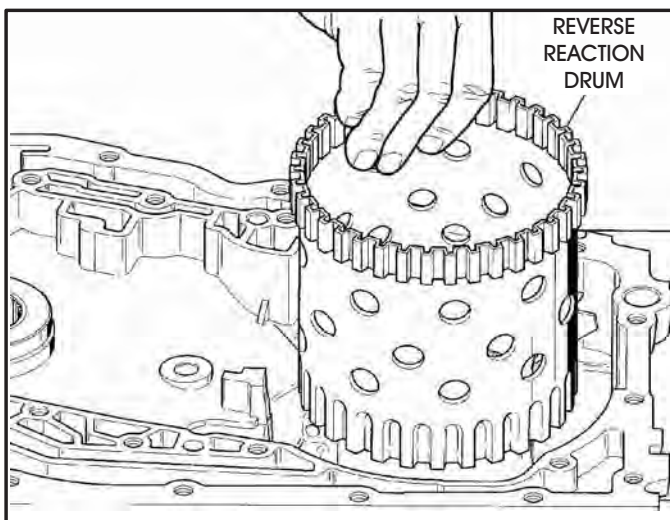

Figure 176
25. Install the reverse reaction drum, as shown in Figure 176, and ensure it is engaged on input carrier splines.